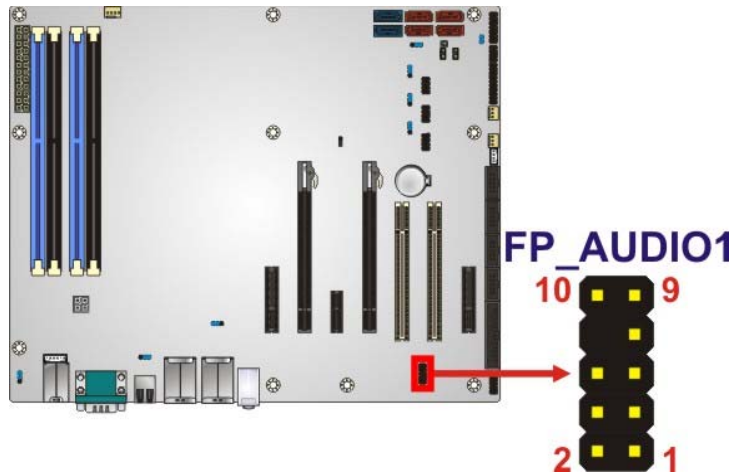

Figure 3-11: Front Panel Audio Connector Location
- CN Location:** See Figure 3-11